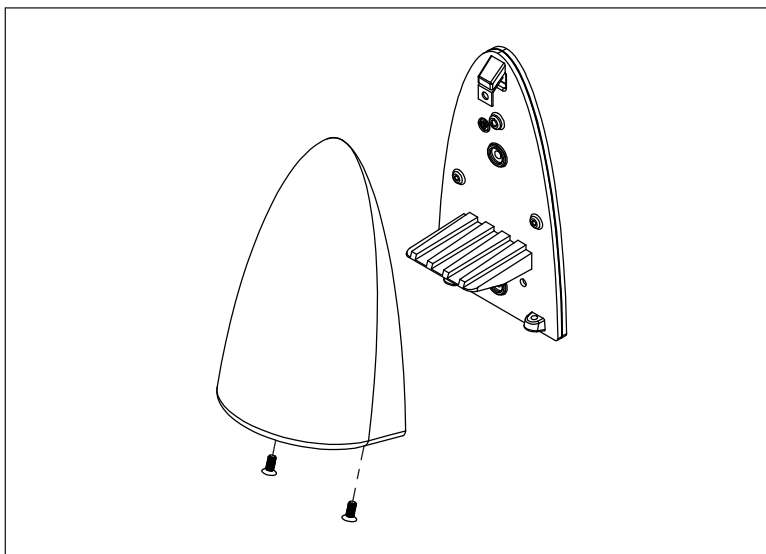

Figure 1
1. Remove Housing Screws to release Back Plate (Fig. 1)